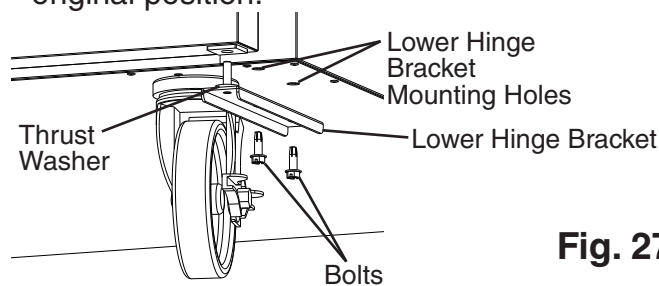
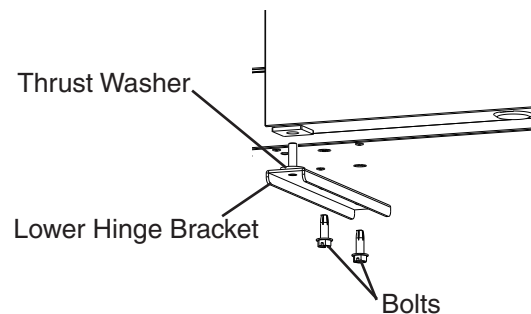

**Fig. 25**
**Fig. 26**
- 10) With the door closed, loosen, but do not remove, the upper hinge bracket outer screw. See Fig. 25. Next, open the door to the fully open position and remove the upper hinge bracket inner screw. See Fig. 26.